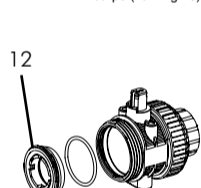
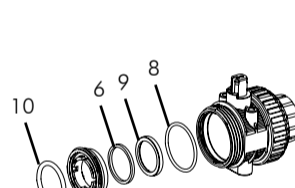
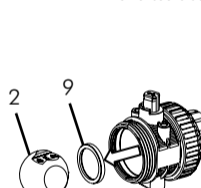

Fig.07
Fig.08
Fig.09
If any of the components of the valve wear out, you can replace them by dismantling the body of the valve. To do so, proceed in the same way with the adjustment but turn it clockwise until the seal carriers (12) are free Fig.07. When you have done this you may substitute any of the body's O-rings (8), (9), (6) Fig.08. Turn the shaft until the ball is in a closed position; remove the ball (2) and remove the ball seat (9) Fig.09.